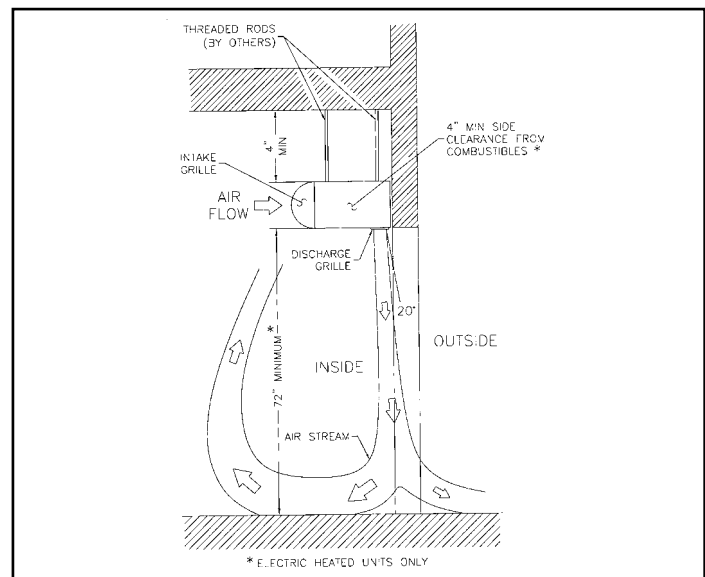

FIGURE 2 - Suspension Mount without Back Adapter
### A. NO BACK ADAPTOR: Figure 2
- Suspend the Architectural Elite 8 Series air door on the inside of the building with the **louvered discharge grille** facing the door opening. **See Figure 2.**
- Mount and level the air door by connecting four (4)  $\frac{5}{16}$ -18 threaded rods or other suitable hardware (supplied by others) to the (4)  $\frac{5}{16}$ -18 threaded inserts located on top of the unit.